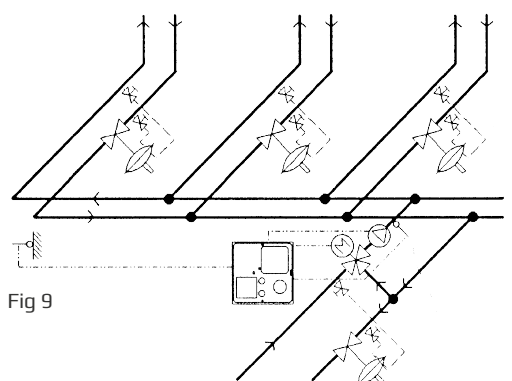

Fig 9
**Fig. 9** shows an example of the circuit to a block of buildings. The TD-control on the take off from the distribution main reduces the high pump head to suit the local pump head. The pressure differential across the TD-controls itself may exceed 2 bar if the distribution pump head is high. In such cases, to avoid noise problems, the TD-controls should be installed well away from living quarters and the immediate pipework should be well muffled.